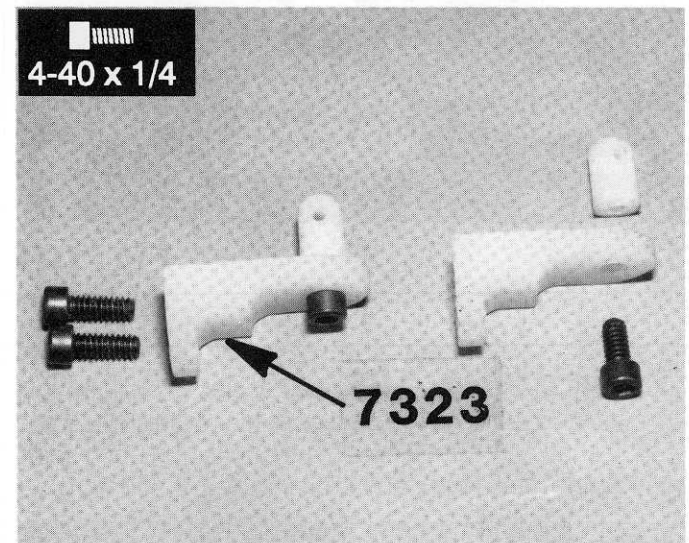

Fig. 102
□ **Fig. 102** From Bag 7-5 take out the two #7323 rear body mounts. Your body mounts will look just a little different than these. Mount the round part of the mount to the base with a 4/40 x 1/4" SHCS screw, as shown. Do both of them. Body clip holes should point to the left and right.